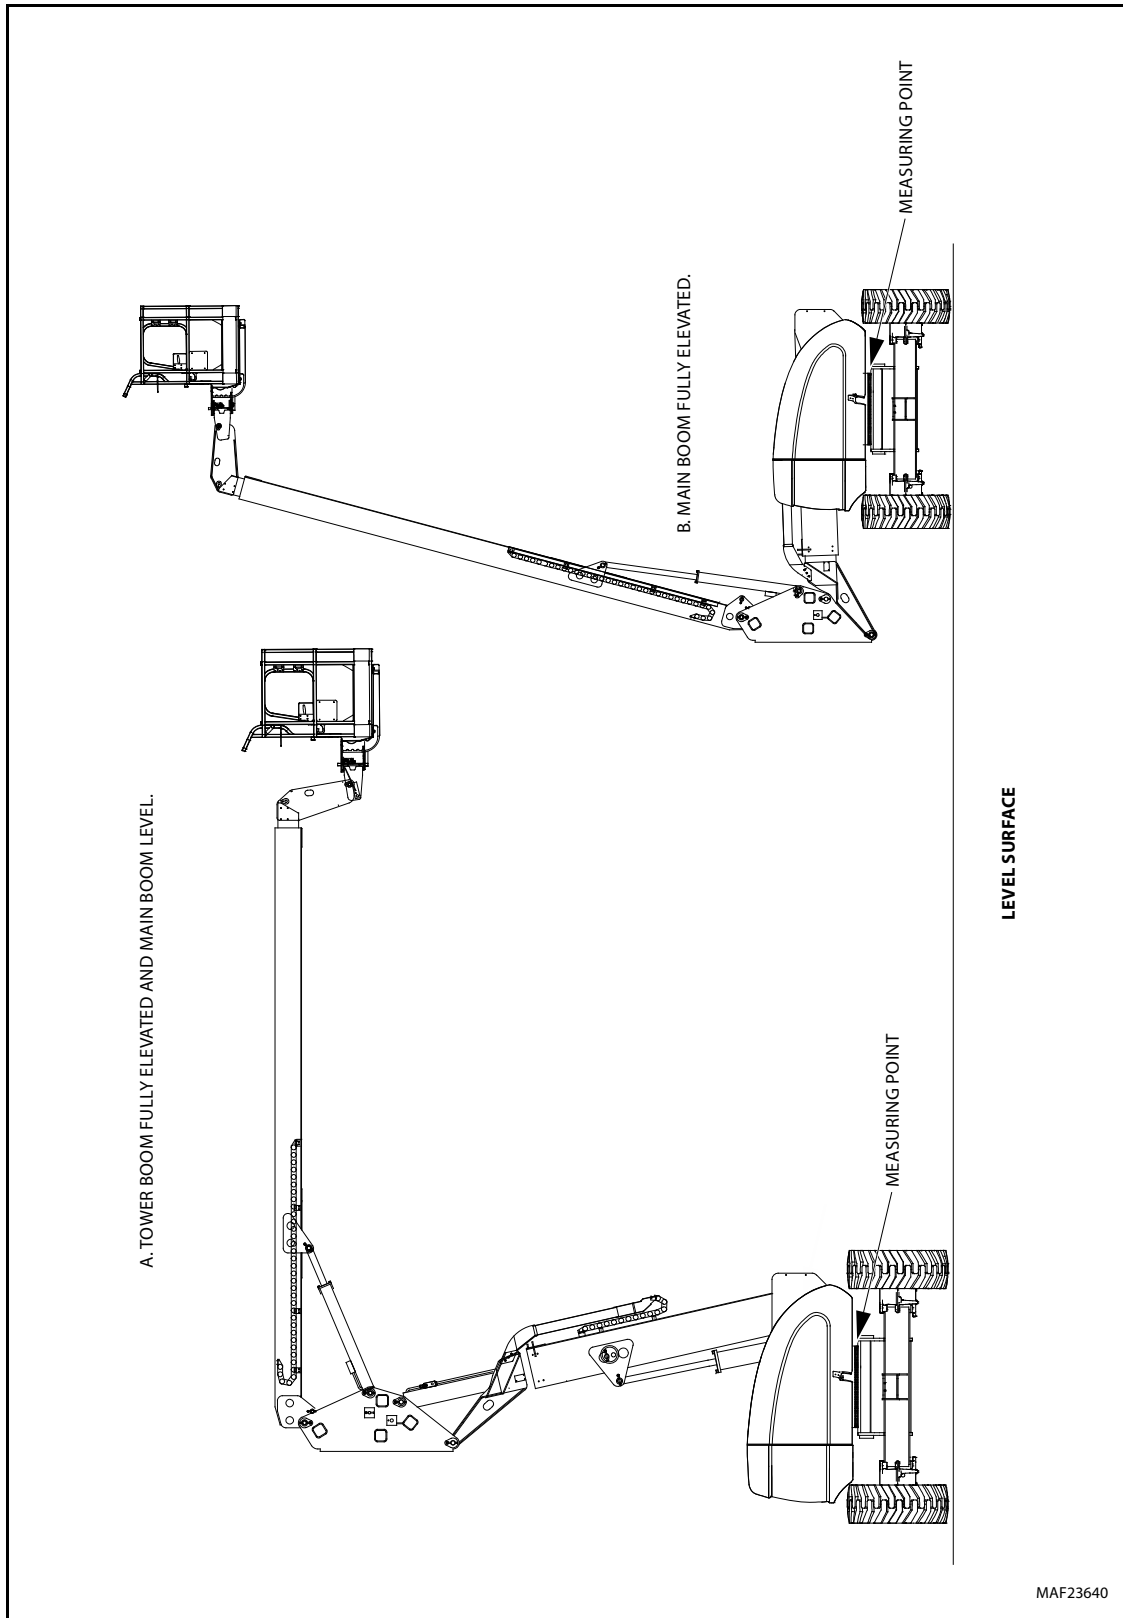

Figure 3-39. Swing Bearing Tolerance Measurement Location & Boom Placement
1. From underside of the machine, at rear center, with the tower boom fully elevated and fully retracted, as shown in Figure 3-39. Swing Bearing Tolerance Measurement Location & Boom Placement A, using a magnetic base dial indicator, measure and record distance between swing bearing and turntable as shown in Figure .
2. At the same point, with the main boom horizontal and fully extended, and the tower boom fully elevated as shown in the Figure 3-39. Swing Bearing Tolerance Measurement Location & Boom Placement B, using a magnetic base dial indicator, measure and record distance between swing bearing and turntable as shown in Figure .